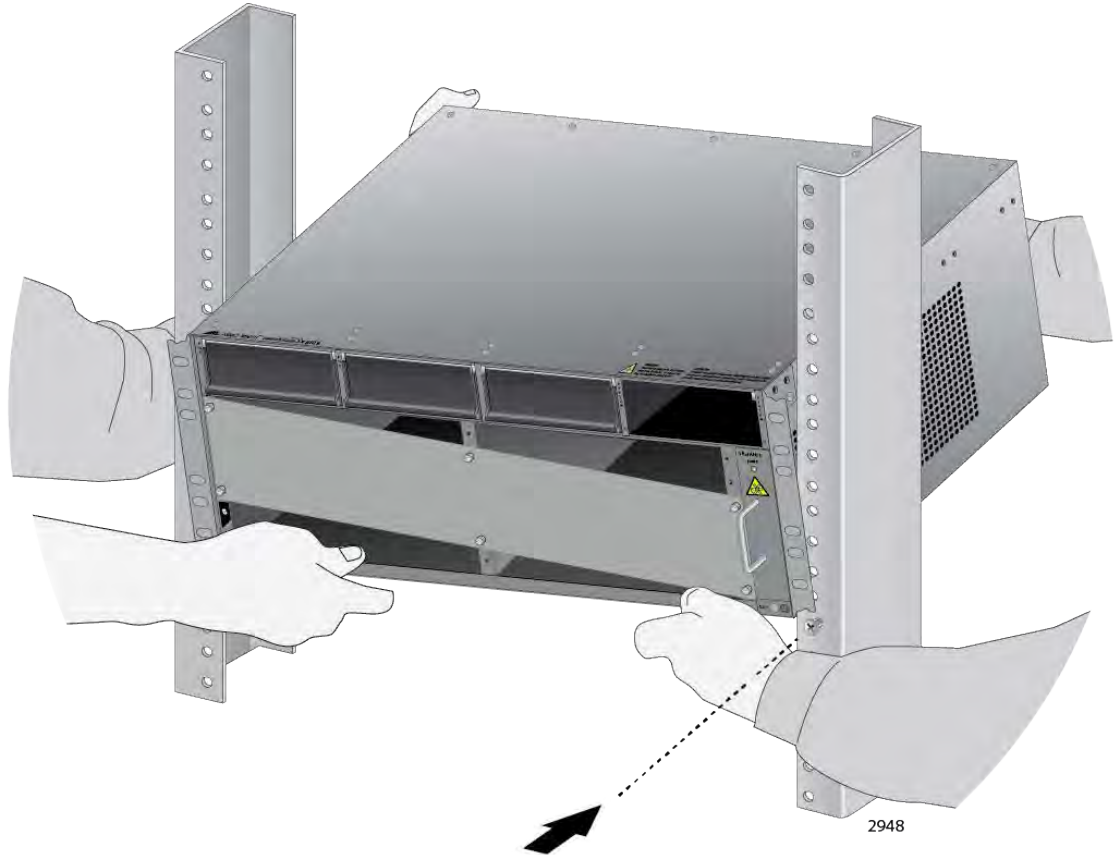

Figure 45. Lifting the AT-SBx8106 Chassis into the Equipment Rack
2. Lift the AT-SBx8106 Chassis into the equipment rack and set the bottom of the equipment rack brackets firmly on the two equipment rack screws you installed in “Preparing the Equipment Rack” on page 109, as shown in Figure 45.